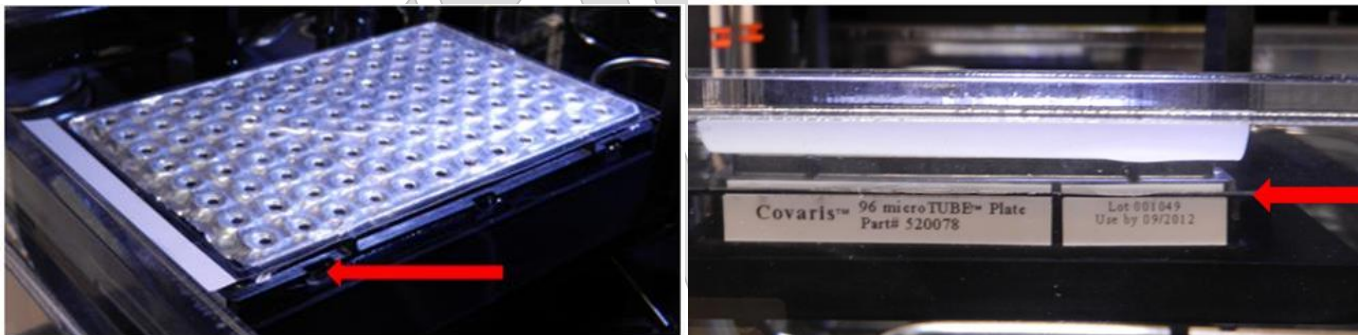

Figure 4: Red arrow indicates the water level for shearing samples in a microTUBE plate. The water level must be at the very TOP of the black plate holder
- 5.8. Figures 4 and 5 show the correct water levels for the microTUBE plate and microTUBE rack. The microTUBE plate sits higher on the stage than the microTUBE rack, so the tank water level must be higher, near the top edge of the microTUBE plate. The water levels must be adjusted manually to reach these points, which is done by opening the door (press the “DOOR” button and pull the handle) and either removing or adding deionized water. Note: no degassing is necessary when removing or adding small amounts of water to bring the tank to the desired level.